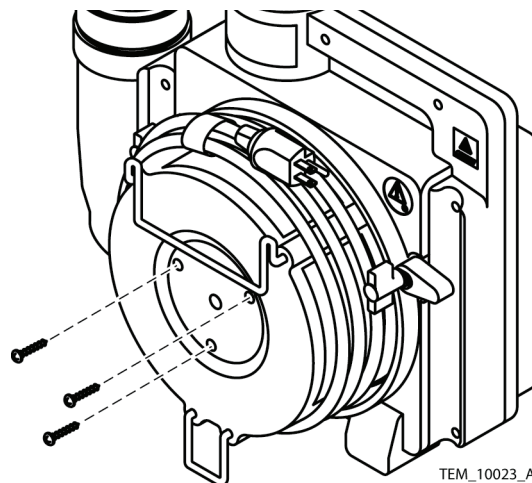

Figure 15. Filter Cover Screws
6. Remove the filter cover screws. See Figure 15.
8. Place the replacement filter cover assembly on the warming unit and install the screws. Tighten the screws to 8 to 12 in/lbs (20 to 30 cm/kg). See Figure 15.